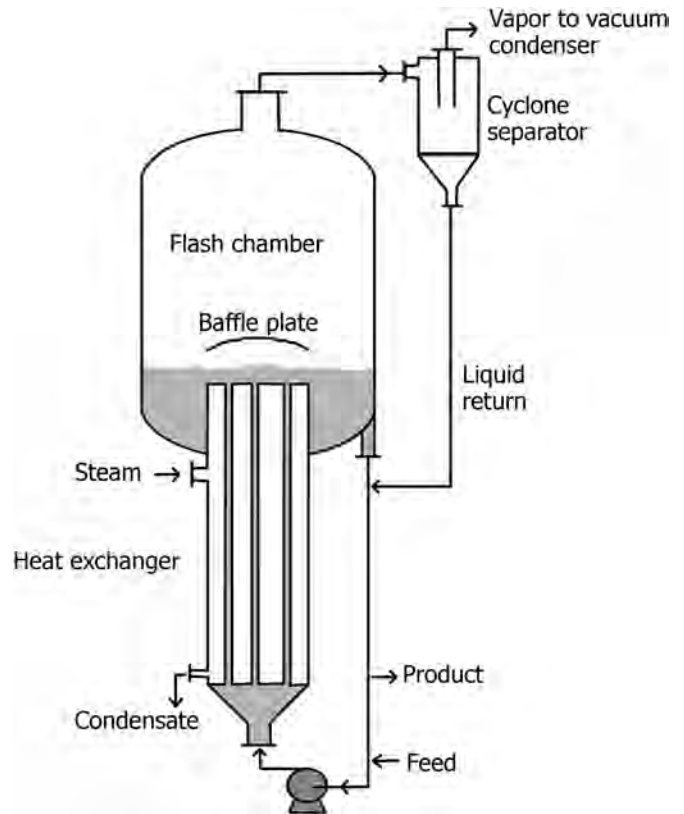

FIGURE 11.21 Vertical forced circulation evaporator.
- Vertical shell and tube heat exchanger or plate heat exchanger as the calandria, with flash vessel/separator arranged above the calandria, circulation pump. Exchanger can be horizontal also (Figure 11.21).